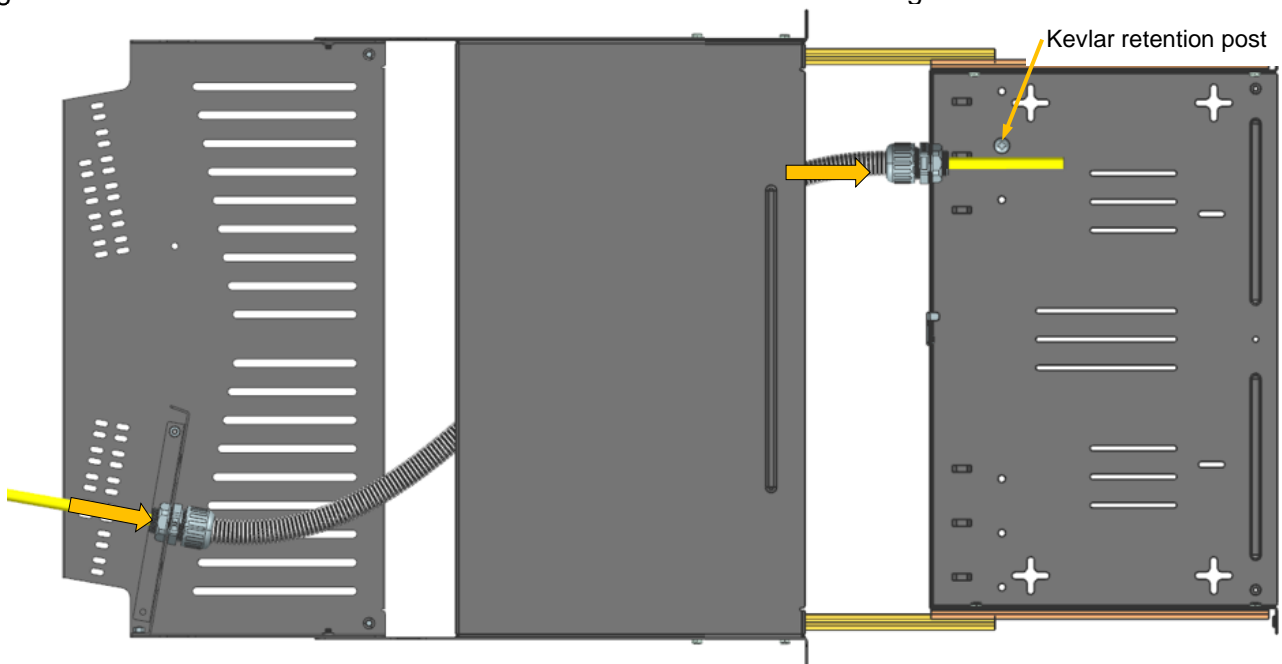

Fig.3K
- Slide out the sliding tray of MFE enclosure with enough space to fasten the other end of the conduit tube assembly as shown (Fig. 3K) to the far set of holes on the MFE sliding tray and not near ones.